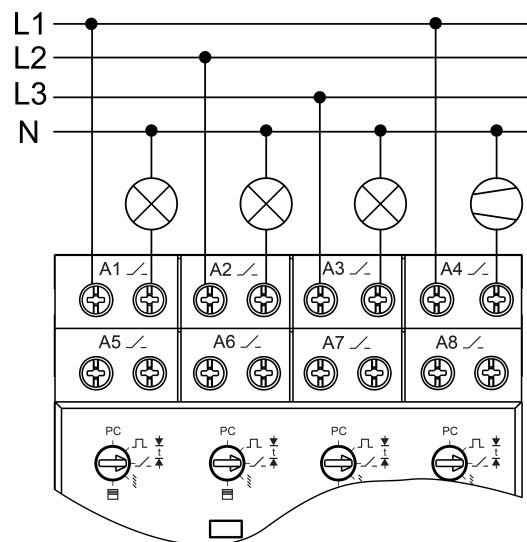

Figure 4: Connection example of switching loads **A1...A4**
- Connect loads as shown in the connection example of switching loads (figure 4).